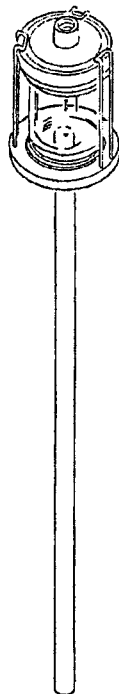

Figure 4-7. Assembled Penetrometer
4. Slide the spring over the stem and the bulb. Lock into position by pressing the cap down slightly until the spring clamps are securely in place in the groove of the cap as shown in Figure 4-7.